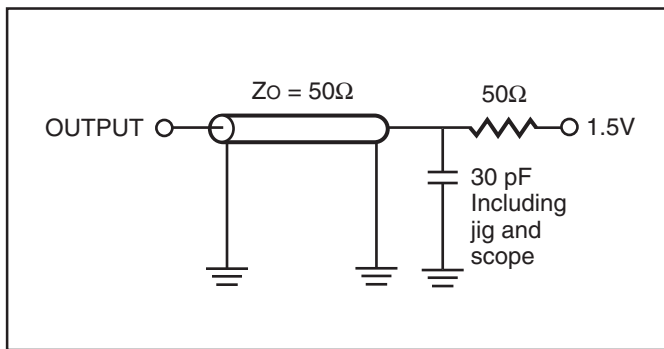

Figure 1.
1. Test conditions assume signal transition times of 3ns or less, timing reference levels of 1.5V, input pulse levels of 0V to 3.0V and output loading specified in Figure 1.